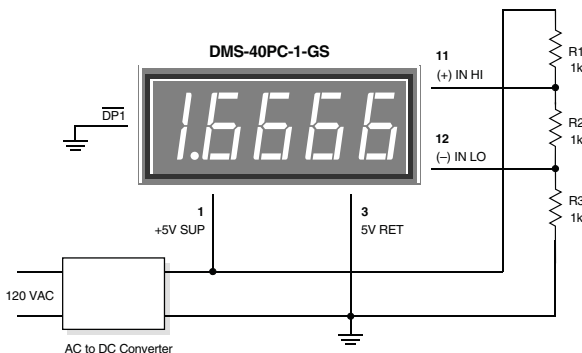

**Figure 2.** Single-Ended Input Configuration
**1. Single-Ended Input Configurations:** The DMS-40PC can measure single-ended signals with either positive or negative polarities. True single-ended inputs always have one of their two terminals at the same potential as the DMS-40PC's 5V RETURN (pin 3). Single-ended inputs are usually derived from power supplies that have a common ground with the meter's +5V supply. Figure 2 shows the recommended connections to be used with this type of input. Pin 12, (-) INPUT LO, is shown directly tied to ground. This connection to ground must be a separate wire or pc-board trace originating at  $V_M$ 's negative terminal. This hook-up will normally eliminate display instabilities and errors caused by ground-loop currents which can occur if (-) INPUT LO is tied to ground at, or near, pin 3.